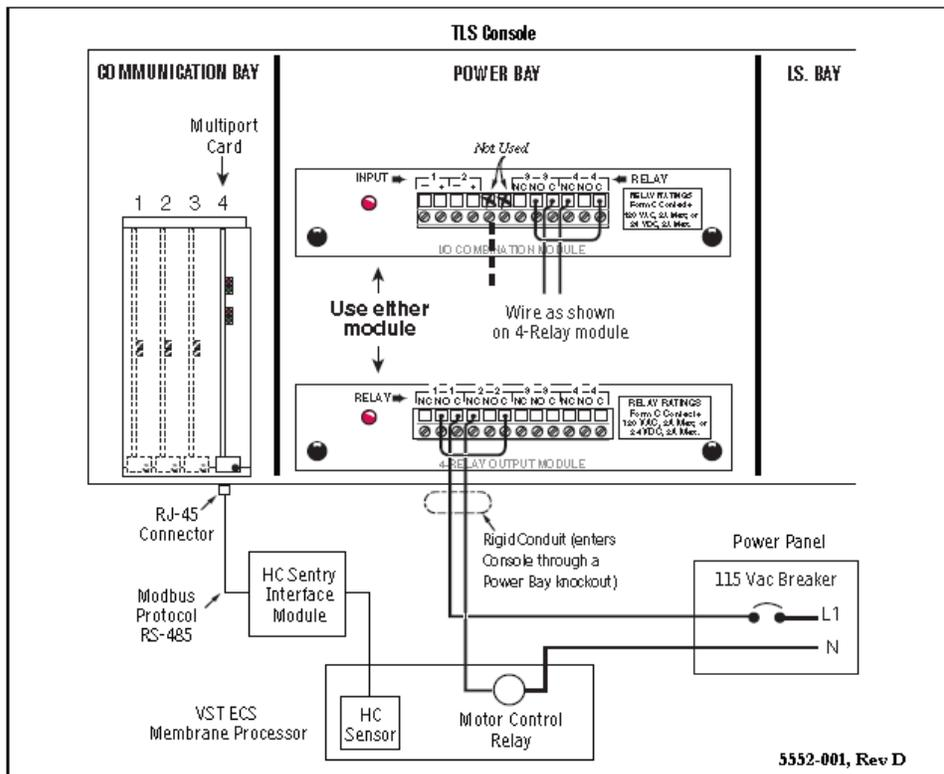

Figure 34: VR TLS Multi-Port Card Connection to the HC Sentry Module
- See Figure 34 TLS / HC Sentry RS-485 Cable for the wiring diagram.